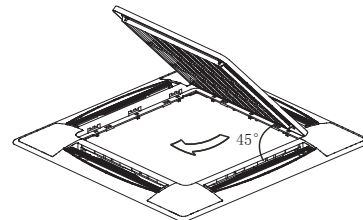

Fig.4-13
2) Draw the grill up to an angle of about 45°, and remove it. (Refer to Fig.4-13)